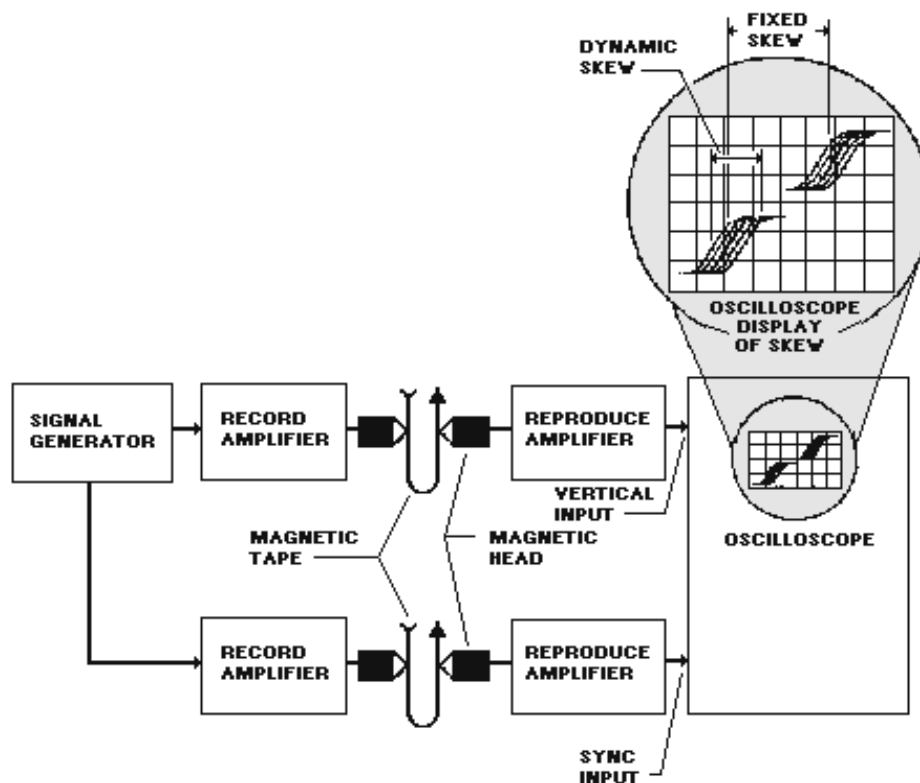

Figure 6-10.—Test equipment setup for measuring skew.
Skew is best measured with an oscilloscope. Figure 6-10 shows a typical test equipment setup for measuring skew. The technical manual for the magnetic tape recorder you're testing will tell you how to set up the signal generator. After test equipment setup, measure the skew as follows:
4. While recording and reproducing the test signal, measure the fixed and dynamic skews which are displayed on the oscilloscope. Figure 6-10 shows how this looks.